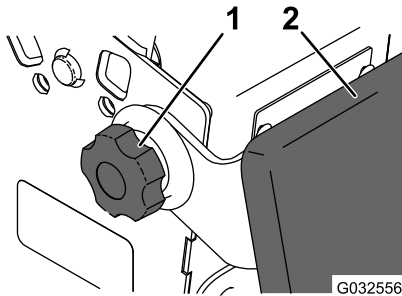

Figure 28
2. Loosen the twist knobs on each side of the machine (Figure 28).